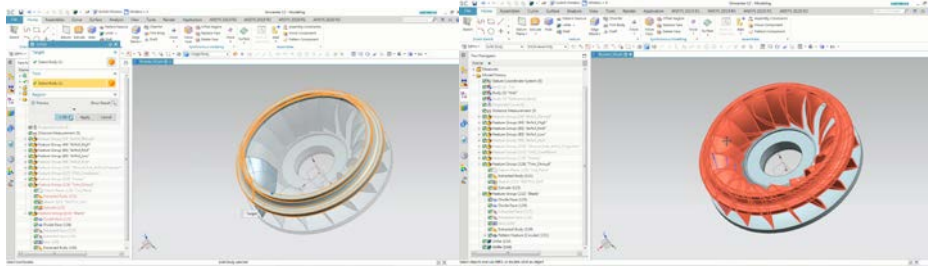

Figure 2 Building up an Automatic Parametric CAD Model for the Water Turbine in NX
1. An automated parametric CAD model for water turbine impeller in NX software, as shown in Figure 2